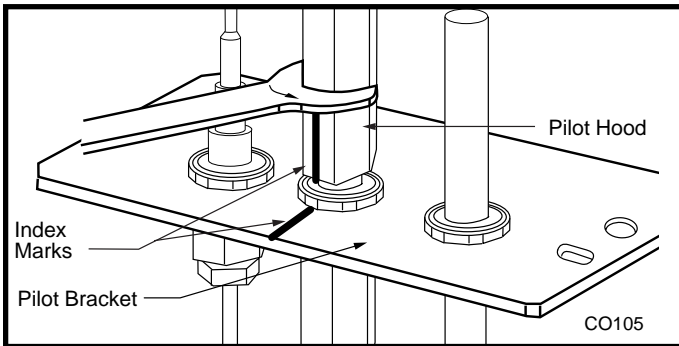

Fig. 56 Remove pilot hood.
- Loosen pilot hood by turning counterclockwise using a 7/16" wrench. (Fig. 56) **NOTE:** You may use penetrating oil to prevent pilot hood threads from seizing up.